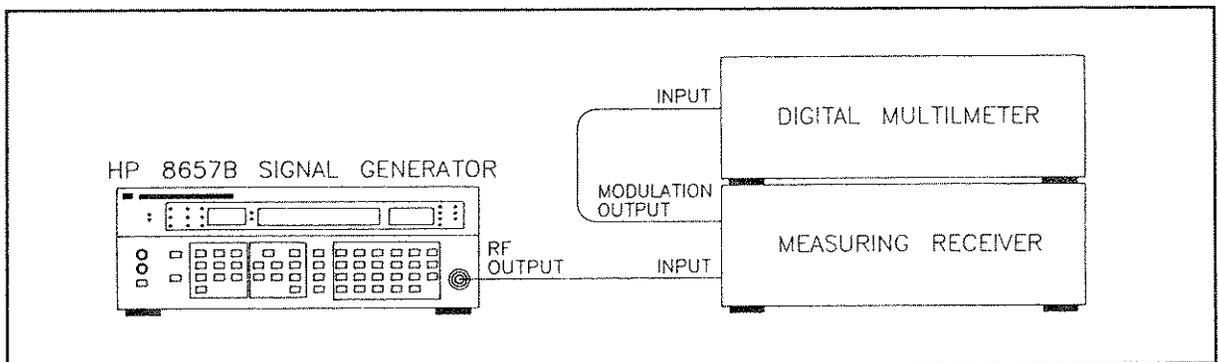

Figure 4-3. Residual AM Test Setup
8. Connect the RF OUTPUT of the HP 8657B to the input of the measuring receiver and the modulation output of the measuring receiver to the input of the digital multimeter as shown in Figure 4-3.